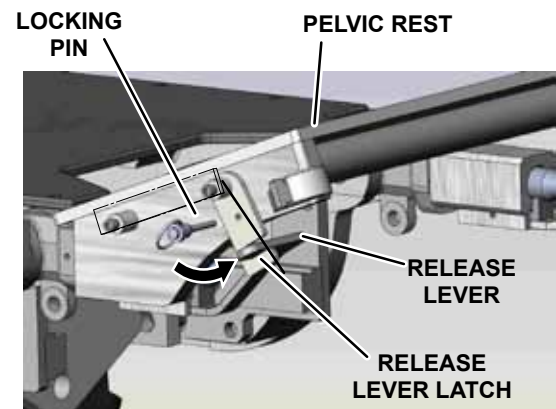

Figure 4. Release Lever Latch
2. If the optional release lever latch is provided, rotate the latch counterclockwise until the release lever is captured in the notch in the latch (Figure 4). Secure the latch in place using the locking pin.